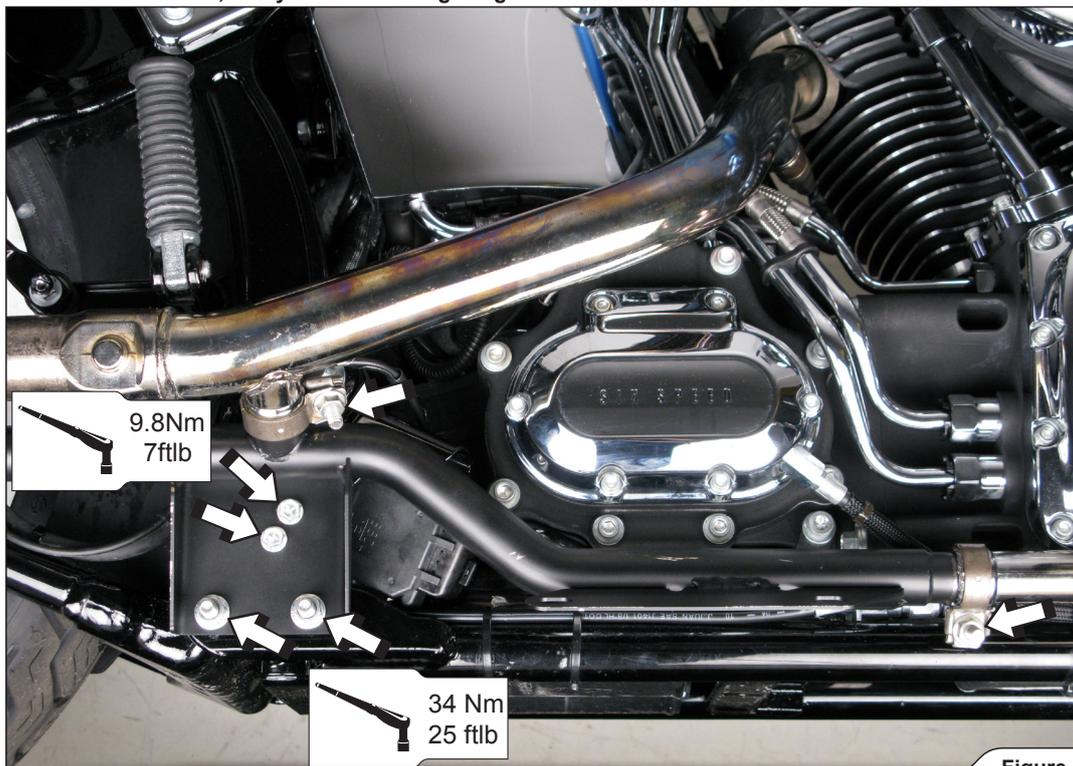

Figure 6
2. Mount the Akrapovič mufflers' bracket onto the frame, using original screws and hand tighten the headers-muffler bracket connection clamps (Figure 6).